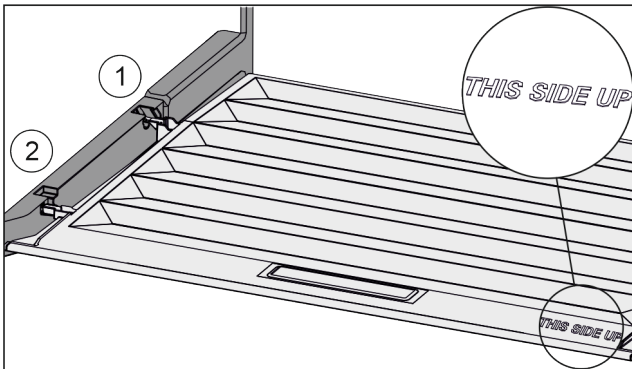

Fig. 96
- ▶ Insert the lip of the cover over the opening of the rear bracket Fig. 96 (1) and click into place Fig. 96 (2).